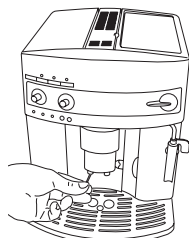

Figure 21
- To clean them, carefully scrape the dry coffee residues from the coffee spout with a needle (Figure 21).